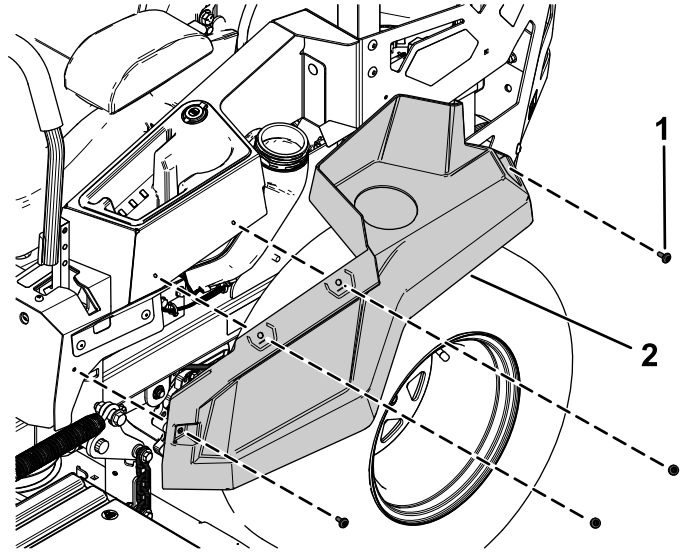

Figure 4
2. Remove the 4 shoulder screws securing the left side pod and remove the left side pod (Figure 4).
- Secure the left side pod using the previously removed 4 shoulder screws (Figure 4).